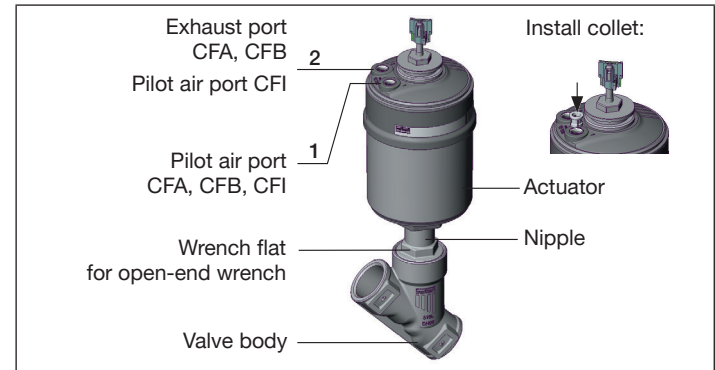

Fig. 4: Installation
- For control function A pressurise the pilot air port 1 (see "Fig. 4") with compressed air (5 bar): Valve opens.
- For control function A pressurise the pilot air port 1 (see “Fig. 4”) with compressed air (5 bar): Valve opens.